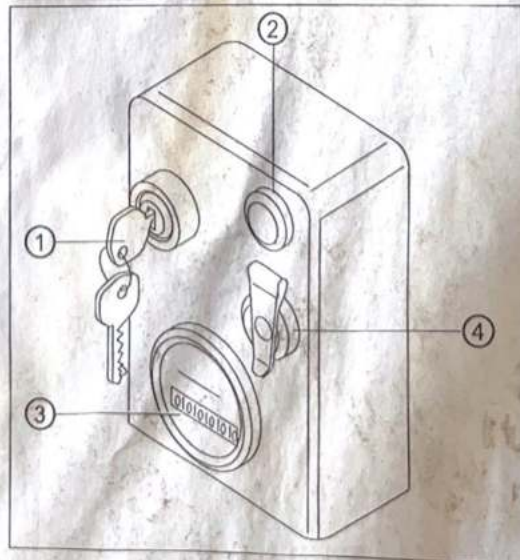

Fig. 11 - Start-up panel
- Use the start-up panel on the rotator tank-beam to start the diesel engine after turning the supplied key (det. 1, Fig. 11) (the warning light for the alternator, det. 2 Fig. 11 turns on and then off).
- The start-up panel is equipped with an hour meter (det. 3, Fig. 11).
- The start-up panel is equipped with a 12V socket (det. 4, Fig. 11).